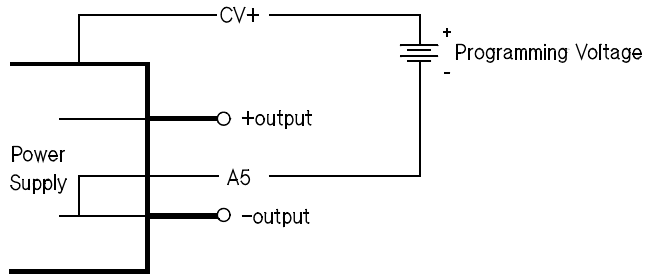

Figure 2
*The CV(-) terminal on the rear panel is internally connected to the plus output terminal. In following connections, it is recommended to use Figure 2, Figure 4, or Figure 6 if the negative terminal of the "Programming Voltage" is not floted from its circuits.*